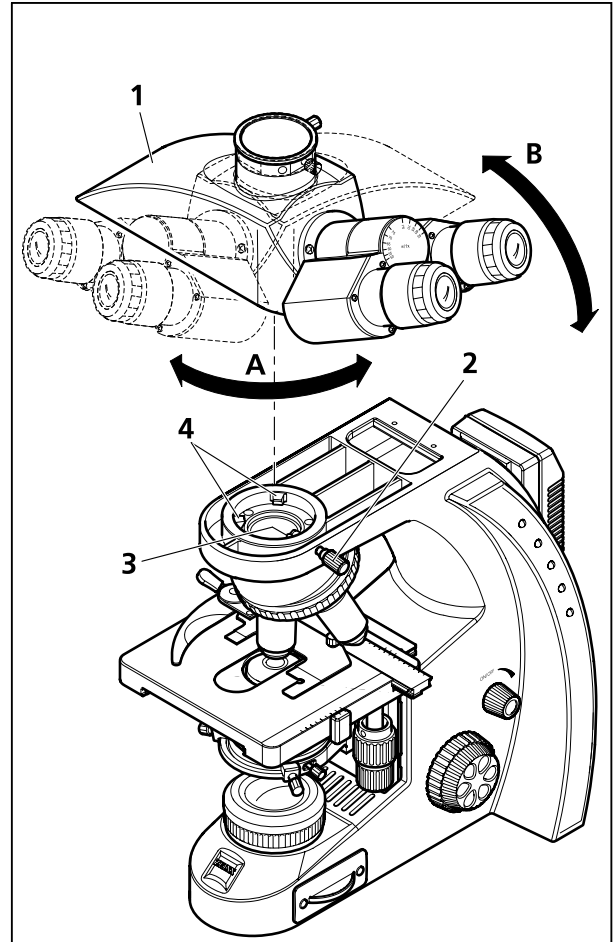

Fig. 26 Changing the tube
- Loosen the clamping screw (Fig. 26/2), turn the installed tube (Fig. 26/1) clockwise by approximately 90° (Fig. 26/A) and detach it on the right side upward (Fig. 26/B).
- Insert the tube to be installed, with the eyepieces pointing to the right and its dovetail mount slightly inclined, under the two holding elements (Fig. 26/4) into the stand.
- Then, place the tube horizontally onto the stand. In doing so, the groove on the underside of the tube must be located above the third holding element (Fig. 26/3) of the stand.
- Turn the tube counterclockwise by 45° (eyepieces pointing frontward), align it to the stand and tighten the clamping screw (Fig. 26/2).